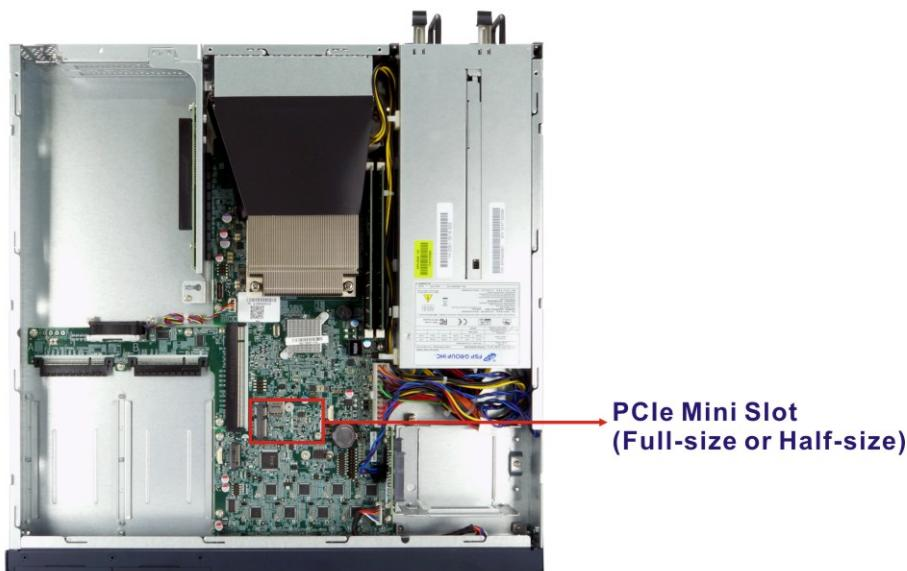

Figure 3-13: PCle Mini Slot Location
- Step 2:** Locate the PCIe Mini slot on the motherboard (Figure 3-13).